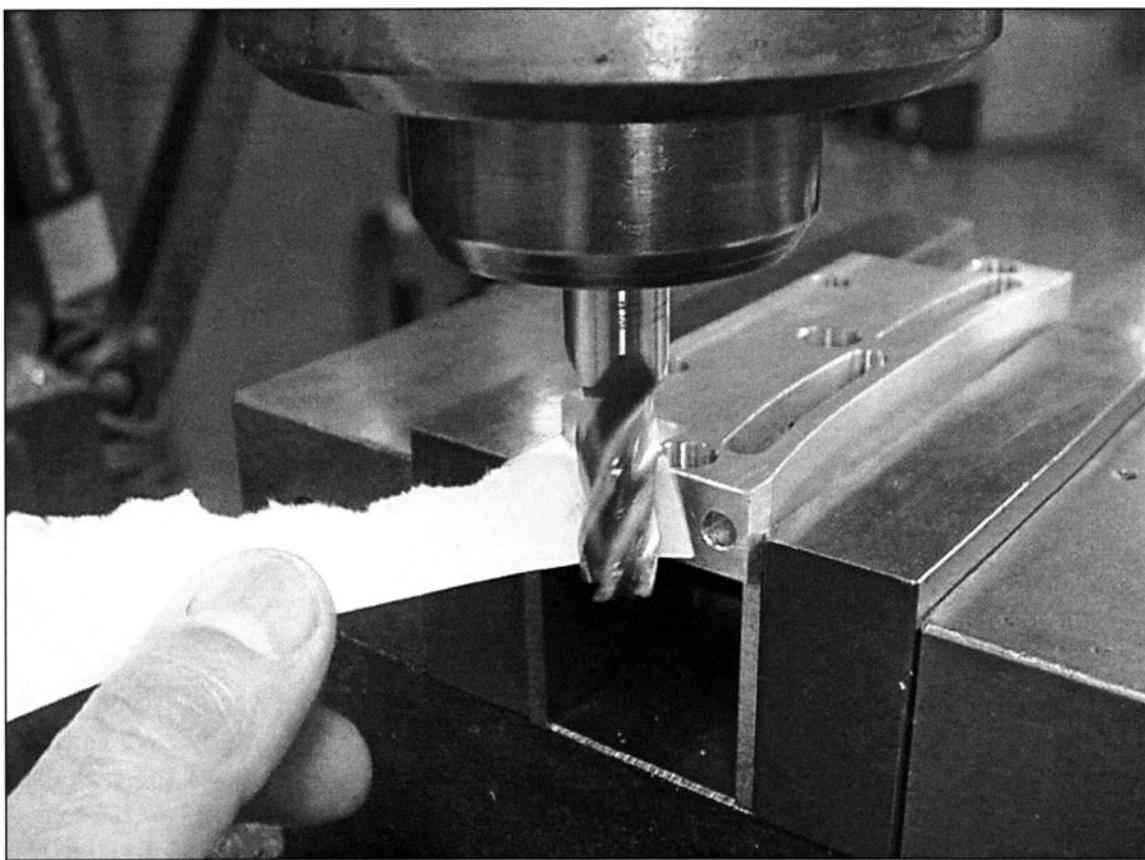

FIGURE 3-29 A piece of paper is used to position an end mill tangent to a part to avoid gouging the surface.
43. Use a piece of paper to position a rotating end mill. (See Fig. 3-29)